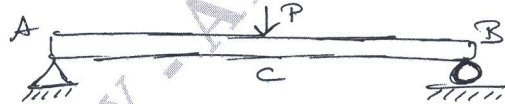

Fig.Q2(b)
- Use Rayleigh – Ritz method to find the deflection at the centre of a simply supported beam of span length “ $l$ ” subjected to a concentrated load “ $P$ ” at its midpoint as shown in Fig.Q2(b).